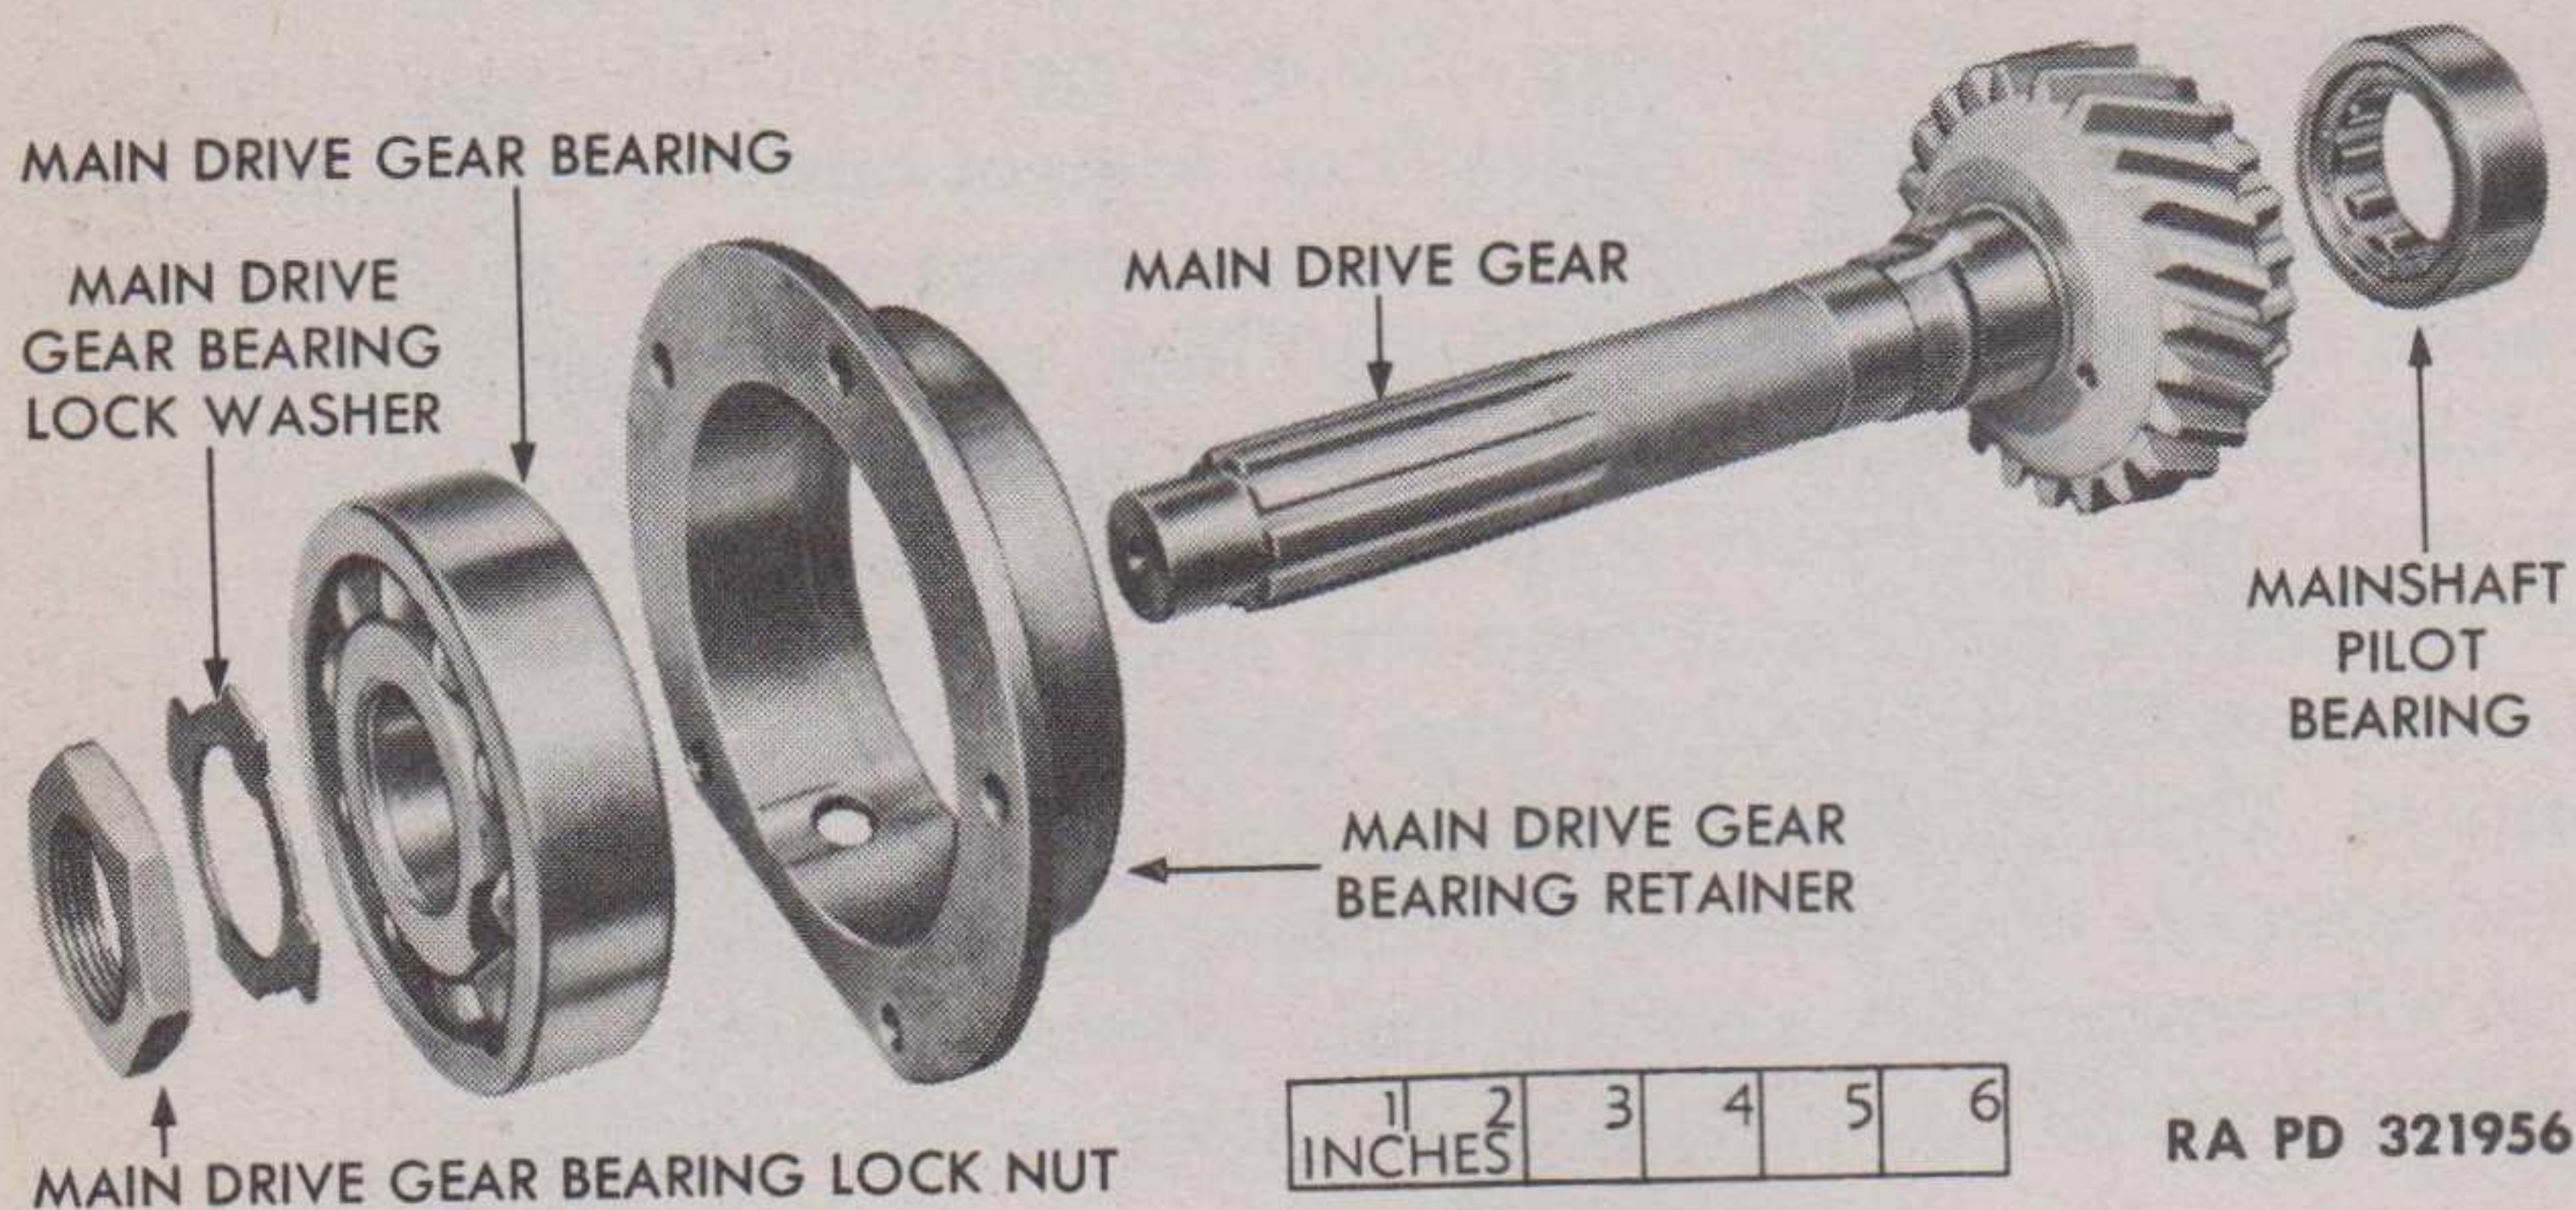

Figure 14 — Main Drive Gear Disassembled
a. **Disassembly** (fig. 14). Remove main drive gear bearing lock nut and washer. Using an arbor press, press off main drive gear bearing and bearing retainer. Press bearing out of retainer. Using a brass drift through opening on back of main drive gear, tap out mainshaft pilot bearing.
c. **Assembly** (fig. 14). Press mainshaft pilot bearing into recess in main drive gear. Press main drive gear bearing into bearing retainer, then press this assembly on main drive gear shaft. Install bearing lock washer and nut, tighten nut, and bend edge of washer over nut.